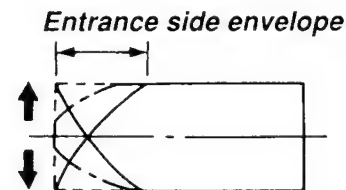

Fig. 5-4-10 Video envelope rising when operation mode is switched from review to play mode
2. Switch the Review mode to the Play mode. When switched to the Play mode, make sure the entrance side envelope comes to an approximate steady state within 3 sec. as shown in Fig. 5-4-10. If it does not rise within 3 sec., take the following steps starting 4.
3. Switch the Cassette Slot-In mode to the Play mode. As in item 2., if it does not rise within 3 sec., adjust as follows.